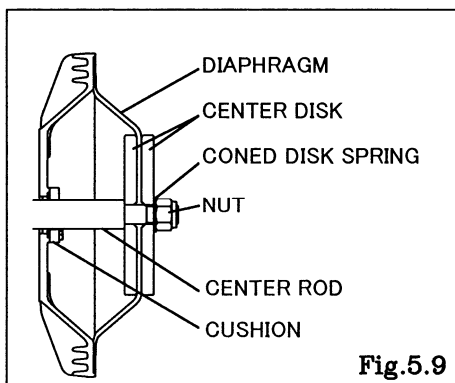

Fig.5.9
- Fix a double nut to one end of the center rod and take the diaphragm and center disk off the opposite end. [Fig.5.9]
- Insert the cushion (except with the NDP-80). (cf. Fig.5.9)
- Draw the center disk to one side (exclude B_H, B_S type cf. Fig. 5.9).